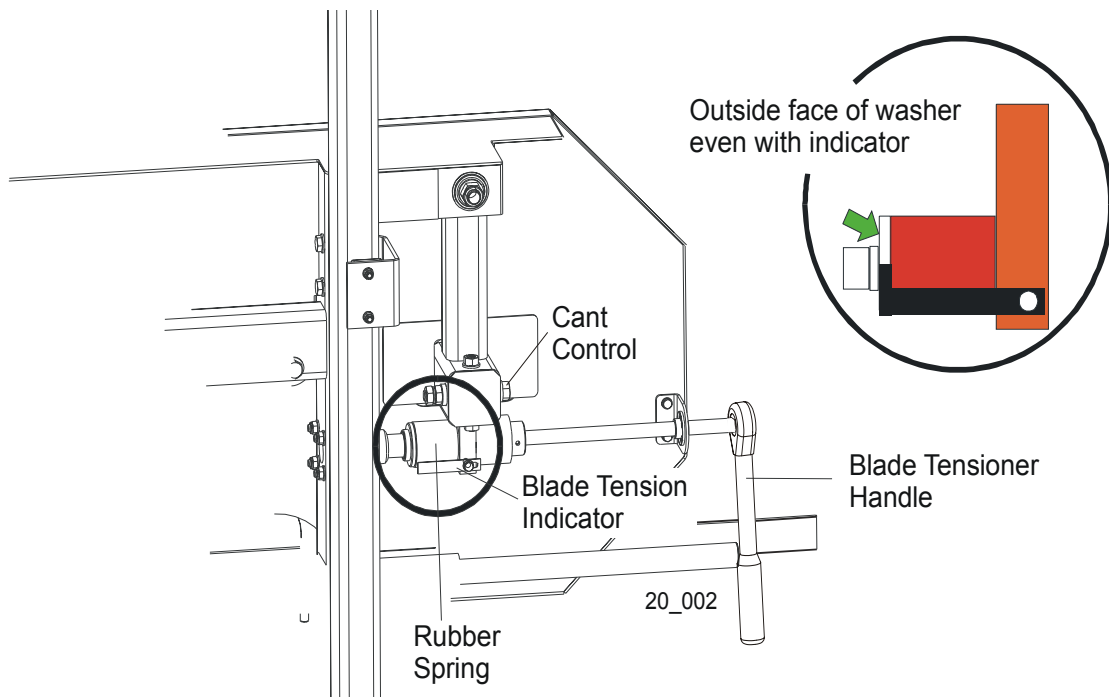

FIG. 2-7
See **Figure 2-7**. Turn the blade tension handle clockwise to compress the rubber spring and tension the blade. Check the blade tension occasionally when adjusting the cant control or while cutting. As the blade and belts heat up and stretch, the blade tension will change. Also, ambient temperature changes can cause tension to change. Adjust the tension handle as necessary so that the indicator is parallel to the blade guide arm.
5. Use the cant adjustment bolt, shown in **Figure 2-7** to adjust where the blade travels on the blade wheels.